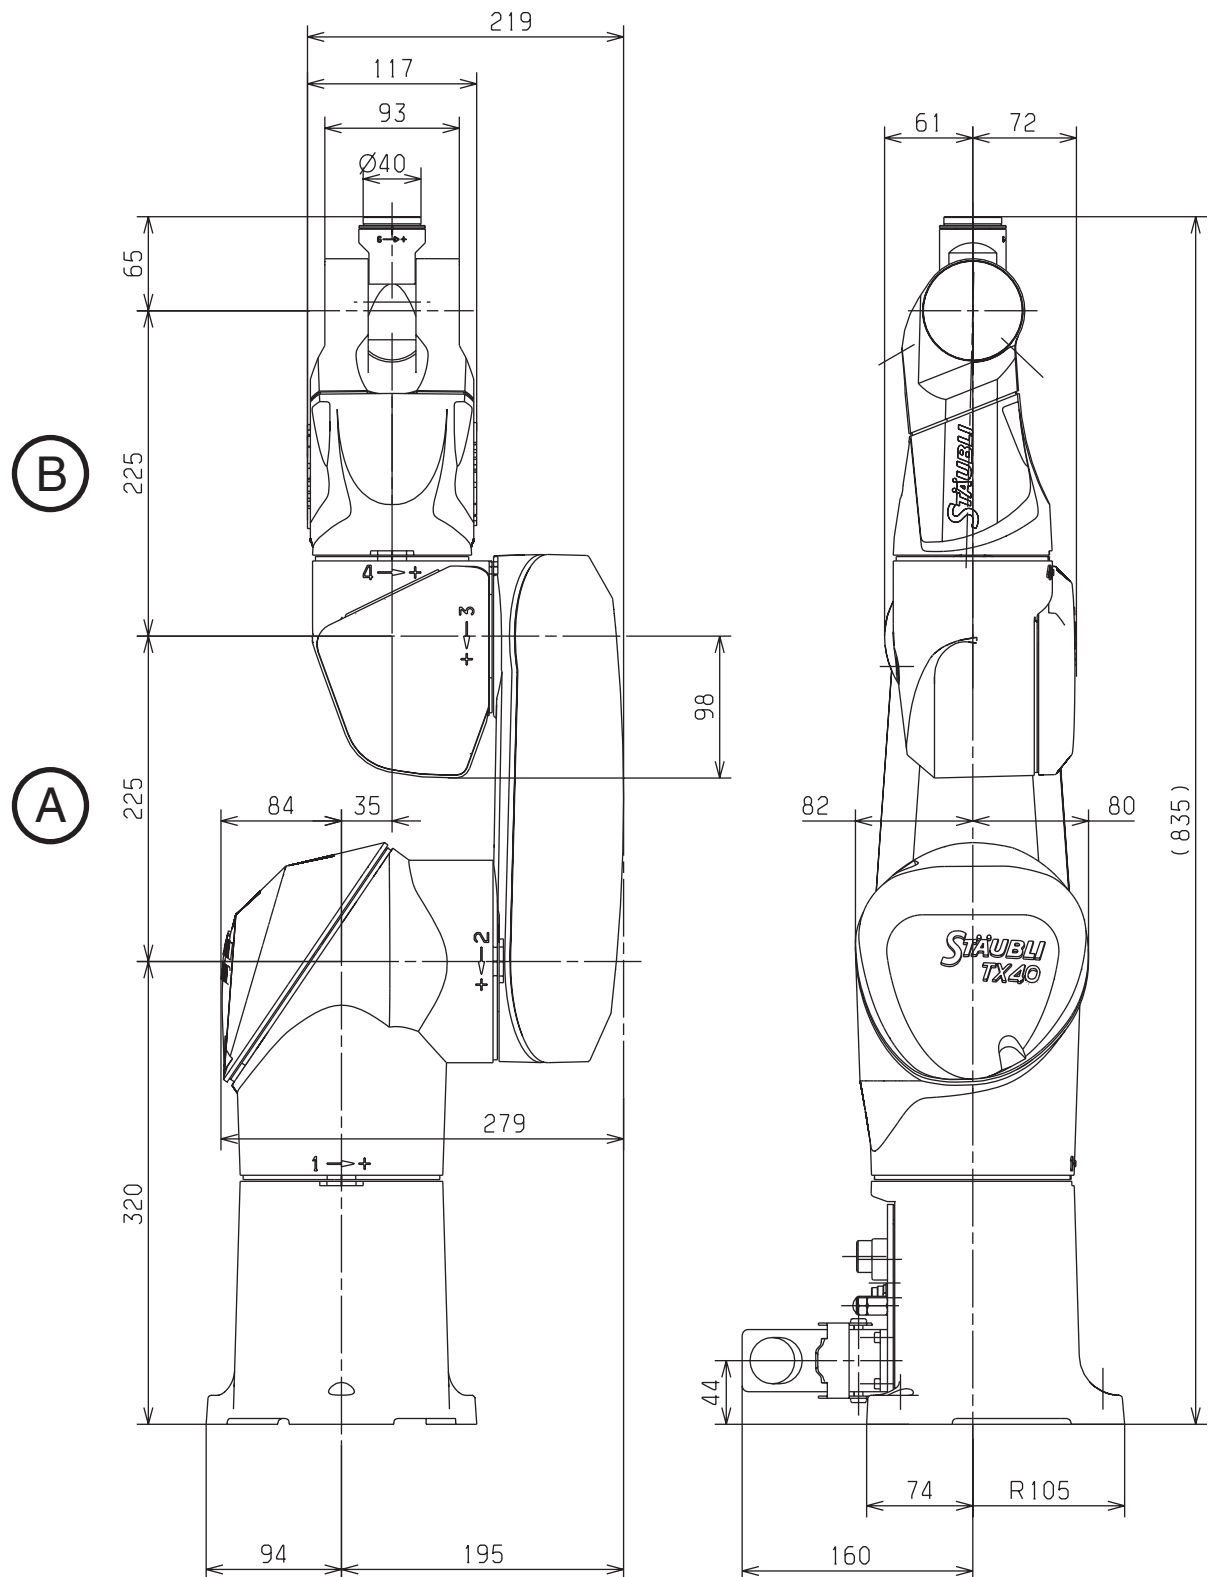

Figure 2.3
- Rear cable outlet (**figure 2.3**).
See **figure 2.3**.